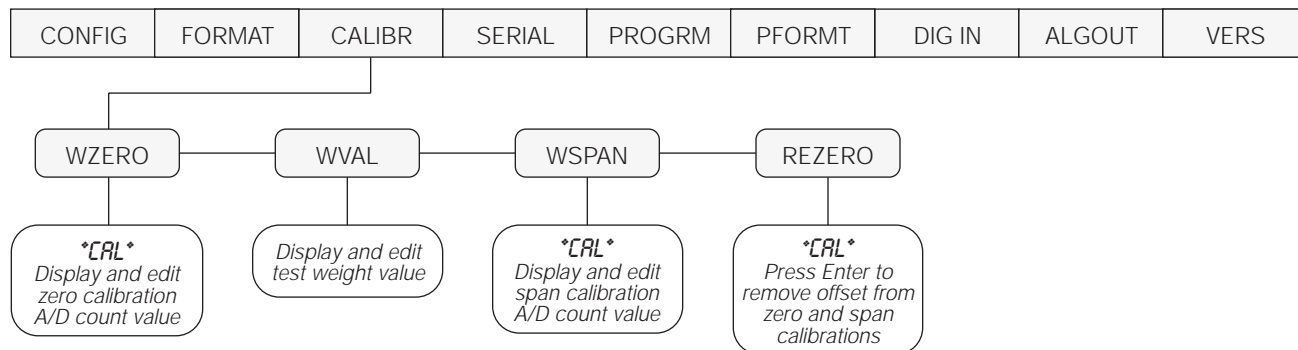

Figure 4-1. Calibration (CALIBR) Menu
2. Press  $\triangleright$  until the display reads *CALIBR* (see Figure 4-1). Press  $\nabla$  to go to zero calibration (*WZERO*).